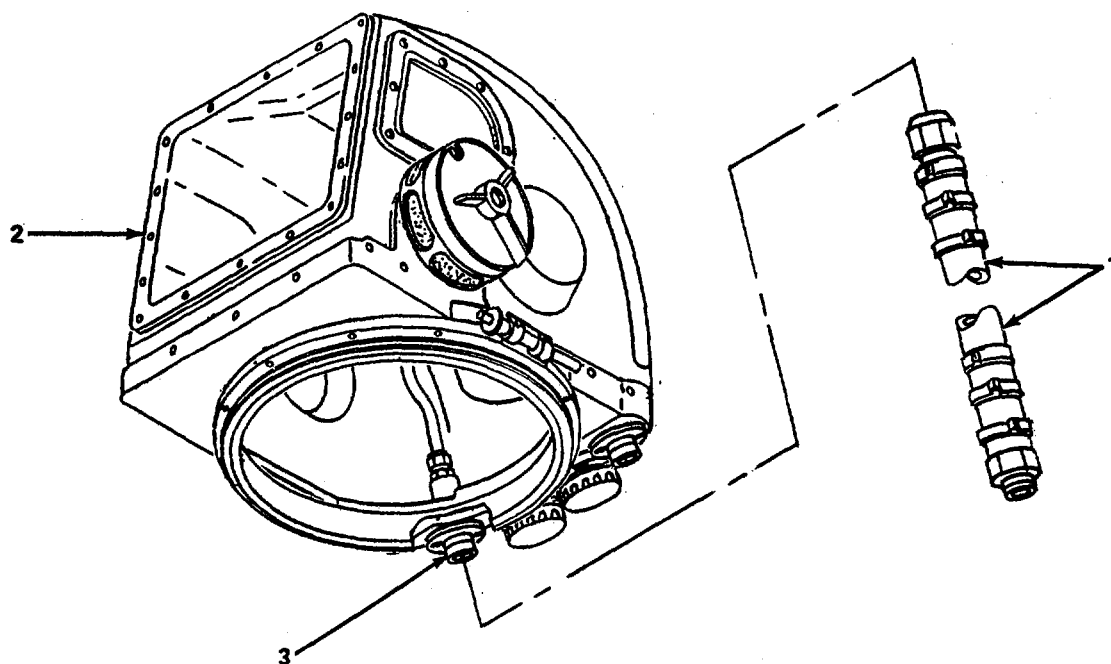

Figure 4-34. Air Supply Whip, Replace.
- b. Replace. (figure 4-34)
- (1) Remove air supply whip (1) from helmet (2).
- (2) Ensure connector (3) on helmet (2) is clean.
- (3) Install new supply whip (1).